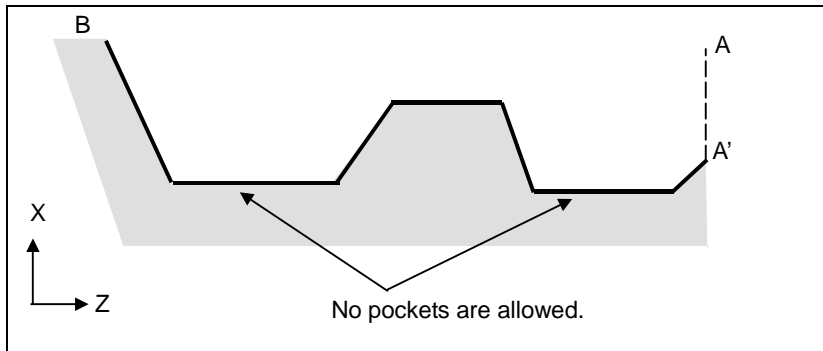

Fig. 7.1.1 (d) Figure which does not show monotone increase or decrease (type I)
(2) The figure along path A'-B must show monotone increase or decrease in the directions of both axes forming the plane (Z- and X-axes for the ZX plane). It must not have any pocket as shown in the Fig. 7.1.1 (d).